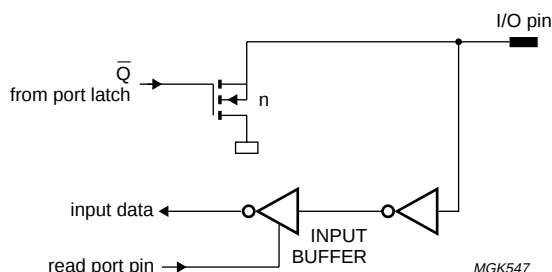

Fig.6 Open-drain port.
1. Open-drain quasi-bidirectional I/O with n-channel pull-down (see Fig.6). Use as an output requires the connection of an external pull-up resistor. Use as an input requires to write a logic 1 to the port latch before reading the port line.